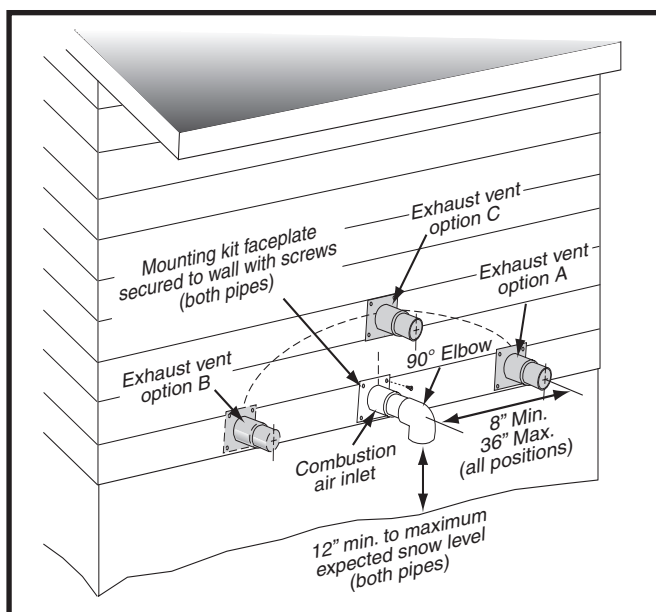
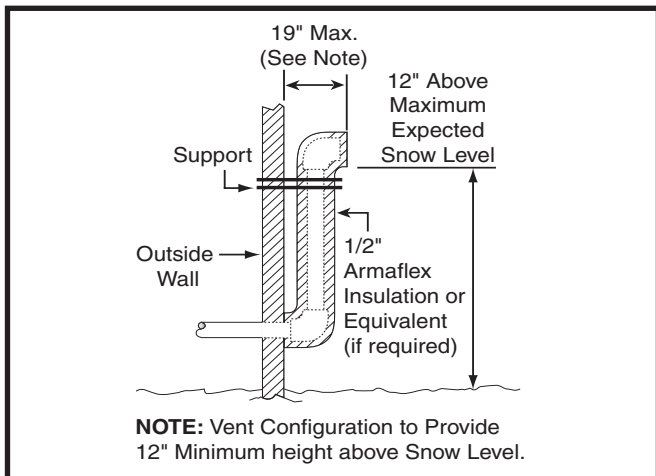

Figure 1. Inlet & Exhaust Pipe Clearances
Figure 3. Alternate Horizontal Vent Installation
- Vent and combustion air intake terminations shall be installed as shown in Figures 1 & 2 \(page 9\) and in accordance with these instructions:
- When the vent pipe must exit an exterior wall close to the grade or expected snow level where it is not possible to obtain clearances shown in Figure 1, a riser may be provided as shown in Figure 3. Insulation is required to prevent freezing of this section of pipe. See Table 3 (page 10) for vent freezing protection.